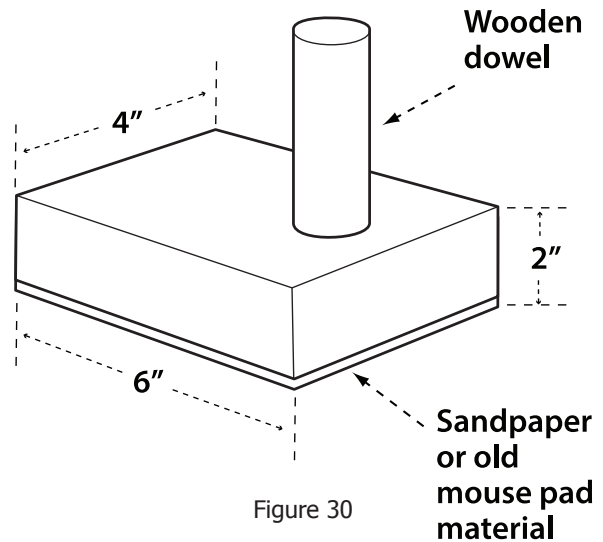

Figure 30
3. Glue a piece of rough or soft material such as sandpaper or rubber to the bottom of the block to grip the workpiece (old mouse pads work well). (Fig. 30).